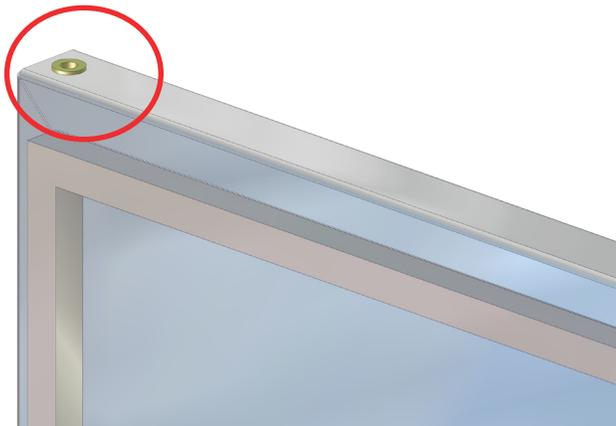

Fig. 15: Door sockets
16. Look at the socket located on both the top and bottom of the door (Fig. 15 - circled in red). The pins of the door hinges will insert into these. Fit the bottom socket of the door onto the bottom hinge pin. Support the door on its bottom hinge while you prepare to affix the door to the top hinge.